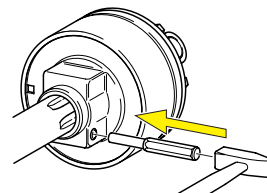

Fig. 4-52
2. Use a hammer and punch, if needed, to moderately hit the end of clamping cone/retaining bolt, as shown. (FIG. 4-52)